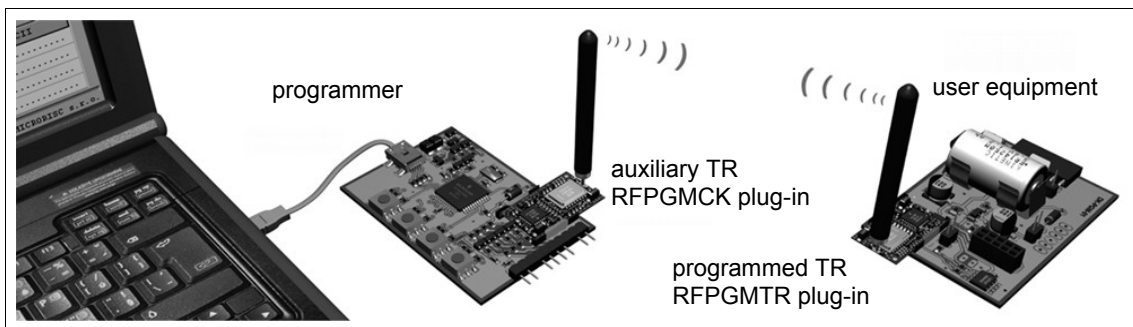

Fig. 2: Wireless upload (RF PGM)
5. **Development phase:** Arrange both TR modules according to Fig. 2 for RF PGM upload.